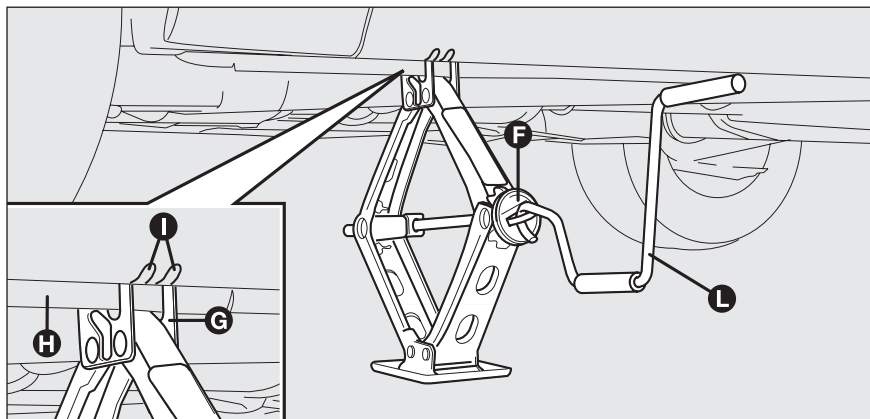

fig. 12
- ☐ Work the jack crank **F-fig. 12** to extend it until the groove **G-fig. 12** on the upper part of the jack is correctly inserted on the lower profile **H-fig. 12** of the body in point **I-fig. 12** (at approx. 72 cm from the front wheel centre or 75 cm from rear wheel centre);
- ☐ Fit the handle **L-fig. 12** to operate the jack and raise the car until the wheel is a few centimetres from the ground;
- ☐ Work the jack handle **L-fig. 12** to lower the car and remove the jack;